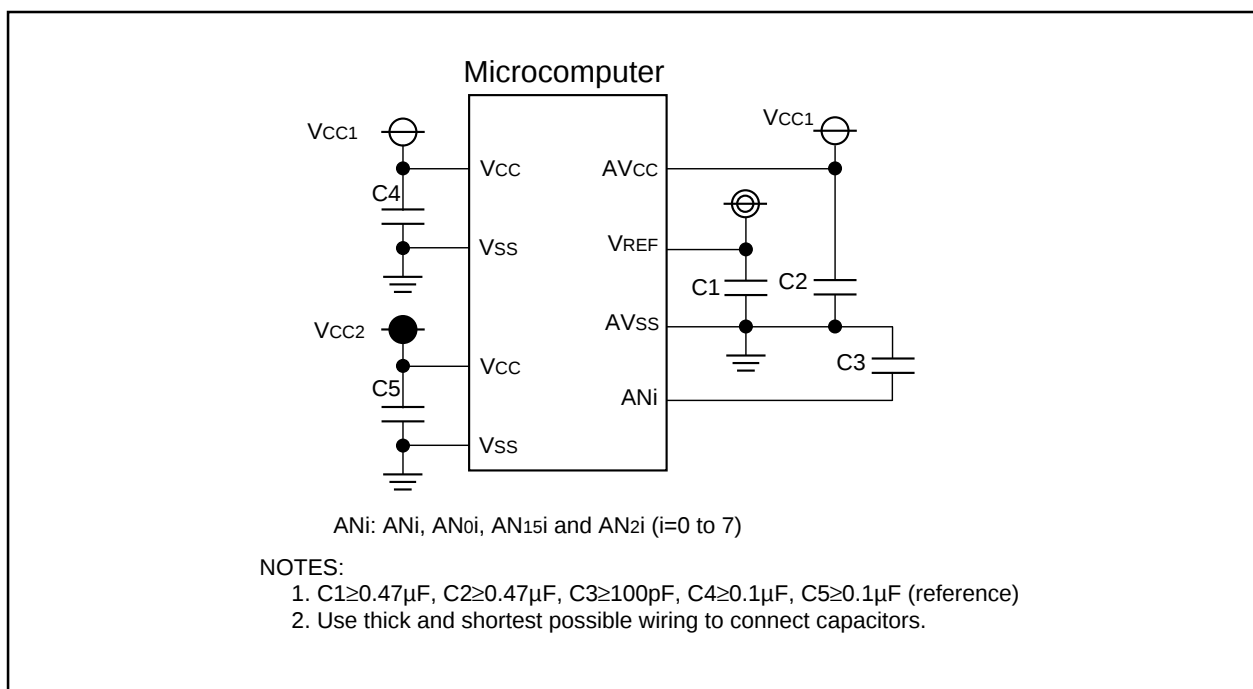

Figure 24.4 Use of Capacitors to Reduce Noise
- Insert capacitors between the AVCC pin, VREF pin, analog input pin ANi (i=0 to 7) and AVss pin to prevent latch-ups and malfunctions due to noise, and to minimize conversion errors. The same applies to the Vcc and Vss pins. Figure 24.4 shows the use of capacitors to reduce noise.